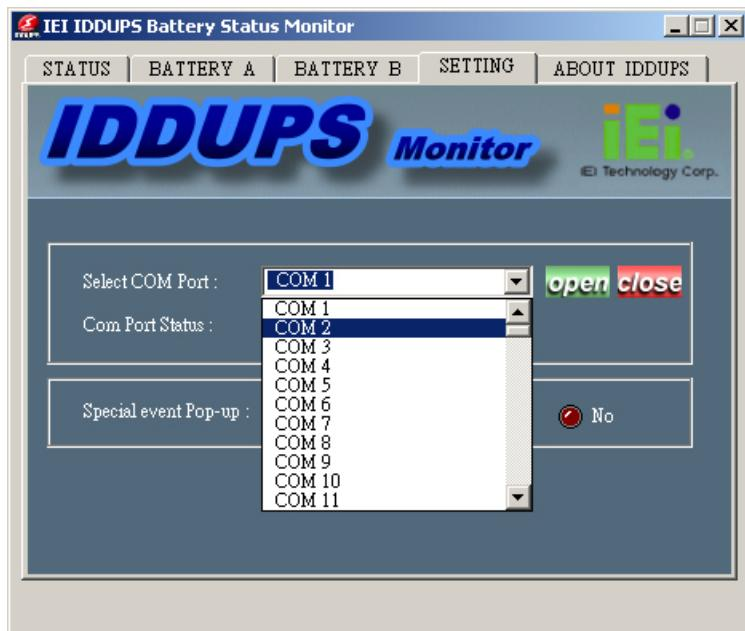

Figure 5-3: Serial Port Selection
Step 5: Select the label of the connected serial port of the SBC (**Figure 5-3**).